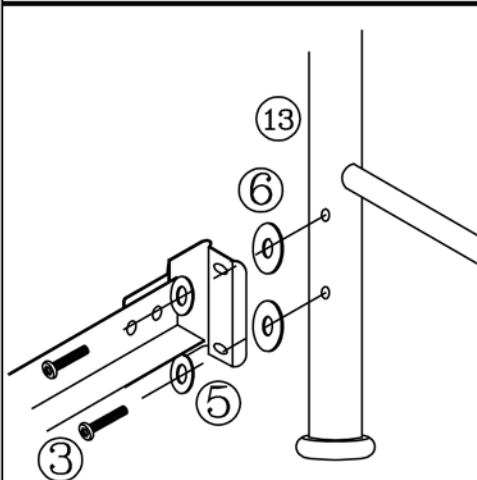

FIGURE 4
- Place a flat washer (5) and then a nut (4) on each screw. Hand-tighten, DO NOT TIGHTEN screws all the way.
- Position footboard panel and align holes in the post (13) with holes in the frame bracket. See Figure 4
- Place flat washer (5) on each screw (3). Insert through bracket, washer (6) into post. Hand-tighten, DO NOT TIGHTEN screws all the way.